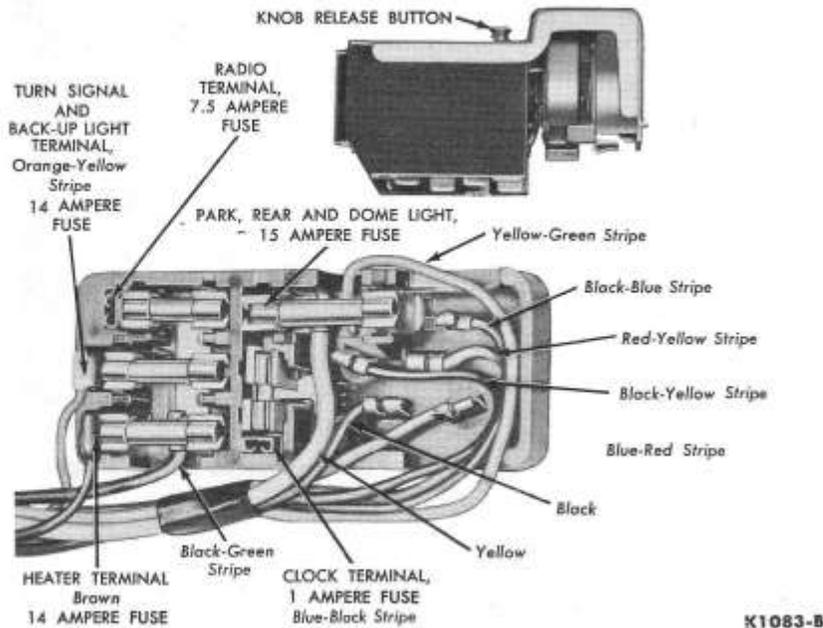

FIG. 7—Headlight Switch
1. Remove the light switch control knob and shaft by pressing the knob release button (Fig. 7), on the switch housing with the knob in the full ON position. Pull the knob out of the switch.
3. Disconnect the fuse panel from the switch (Fig. 7).
A combination headlight switch, dome light switch, and circuit breaker is used (Fig. 7). The circuit breaker protects the headlight circuit.